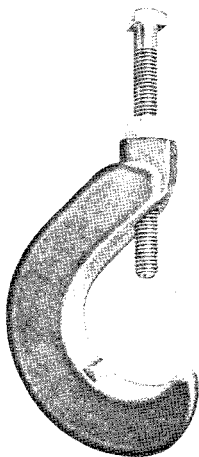

Fig. 2—AT-8497 L1A Cable Reel Spacer
**2.03** The AT-8490 L2A Drive Mounting consists of a locking bar, two lugs, a mounting frame, and a pin and bracket assembly. Two AT-8497 L1A Cable Reel Spacers (Fig. 2) are provided for locating the cable reel on the spindle. The L2A mounting is permanently installed to provide for mounting the L1A drive unit on TRUCO cable reel trailers.